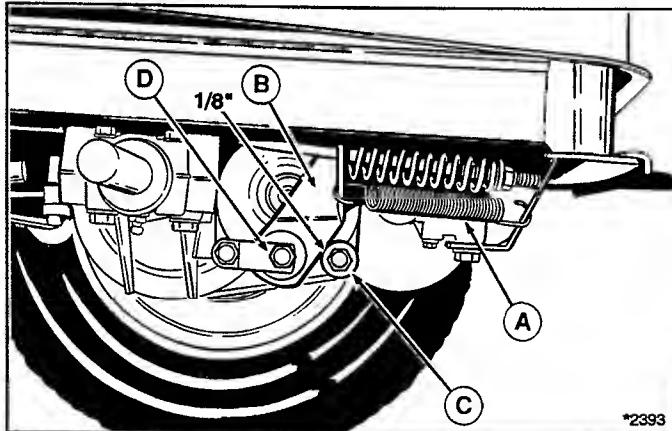

Figure 26. Brake Adjustment (Gear Model shown)
2. Remove the tension spring (A, figure 26).
3. Move the brake cam (B) forward. On gear models there should be $1/8"$ gap between the cam (B) and the spacer (C). On hydro models, there should be $1/8"$ gap between the cam (B) and the transaxle cam stop (similar to location of spacer (C) as shown in figure 26).
4. To adjust clearance, turn the nut (D) clockwise to tighten nut and decrease gap. Turn nut counterclockwise to loosen nut to increase gap.